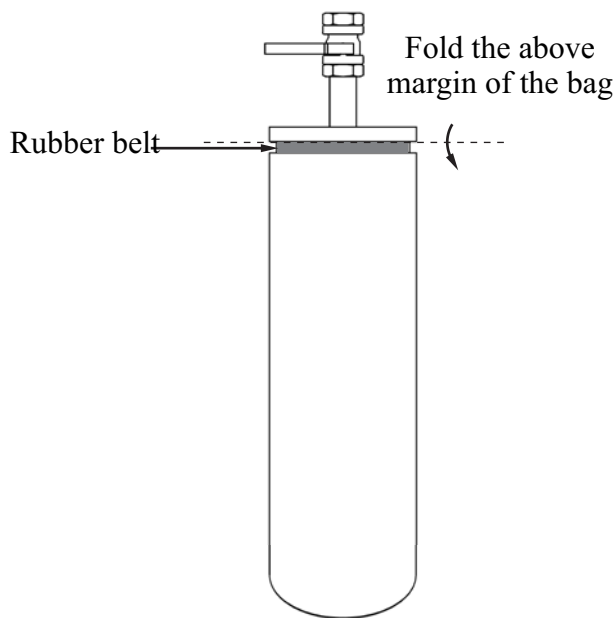

Figure 12
Step 2: Fit the rubber belt into the slit of the disk, then fold the above margin of the bag to cover the rubber belt (Figure 12).